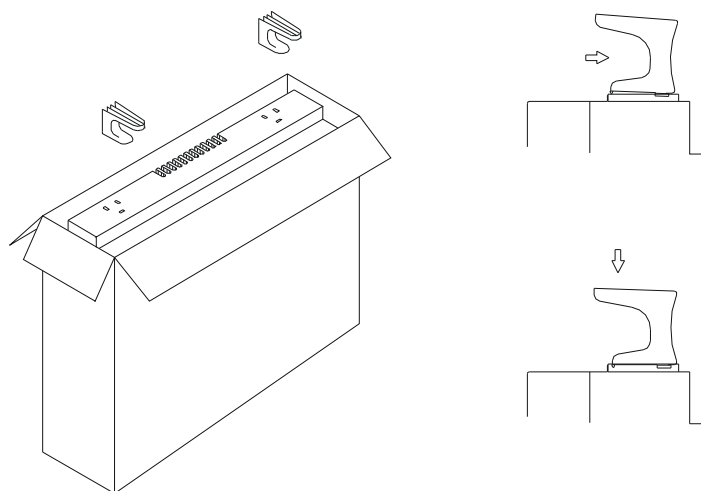

Fig.1
2. Open the carton at the indicated side and fix the feet (Fig.1) without removing the heater casing. The screws are in the accessories bag. Turn the carton upside down to allow the heater to stand on its feet and remove the carton. Check that it is the correct model and that it is in good condition.